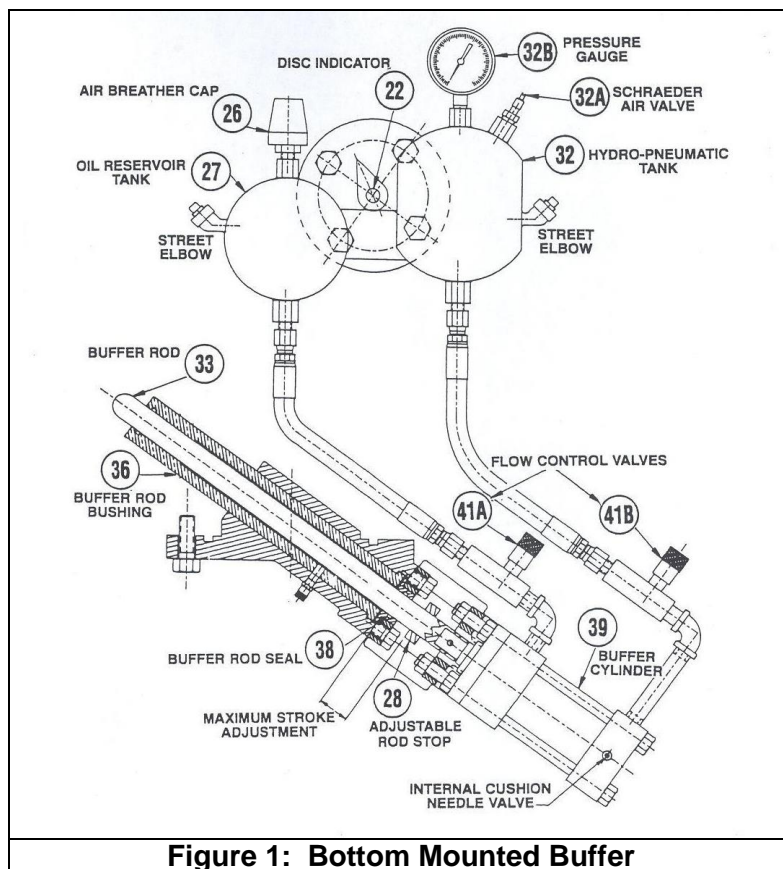

Figure 1: Bottom Mounted Buffer
- The APCO CSD-800 Slanting Disc Check Valve may be installed in a horizontal position. Contact DeZurik if installed in vertical position with the flow upward. The embossed flow arrow on the valve body should be pointing in the direction of flow. In all cases however, with the CSD-800-BMB, the tanks (27) and (32) must always be in the upright position with piping from the dashpot cylinder (39) entering at the bottom of the tanks (see Figure 1.) With the CSD-800-TMD, the tanks (73) and (74) also must always be in an upright position (see Figure 2.) Unless otherwise specified, the valves are shipped for horizontal installation.
See Figure 1 for part identification.
-See Figure 1
1. Hydro-pneumatic tank (32)